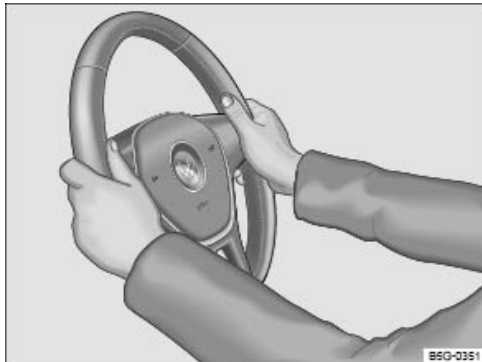

Fig. 65 On the steering wheel: 9 o'clock and 3 o'clock position.
- Adjust the steering wheel so that you can hold it with both hands on the outside of the rim at the 9 o'clock and 3 o'clock positions → Fig. 65, with arms slightly bent.
- While driving, always keep both hands on the outside of the steering wheel rim at the 9 o'clock and 3 o'clock positions → Fig. 65. This reduces the risk of injury if the driver front airbag is triggered.